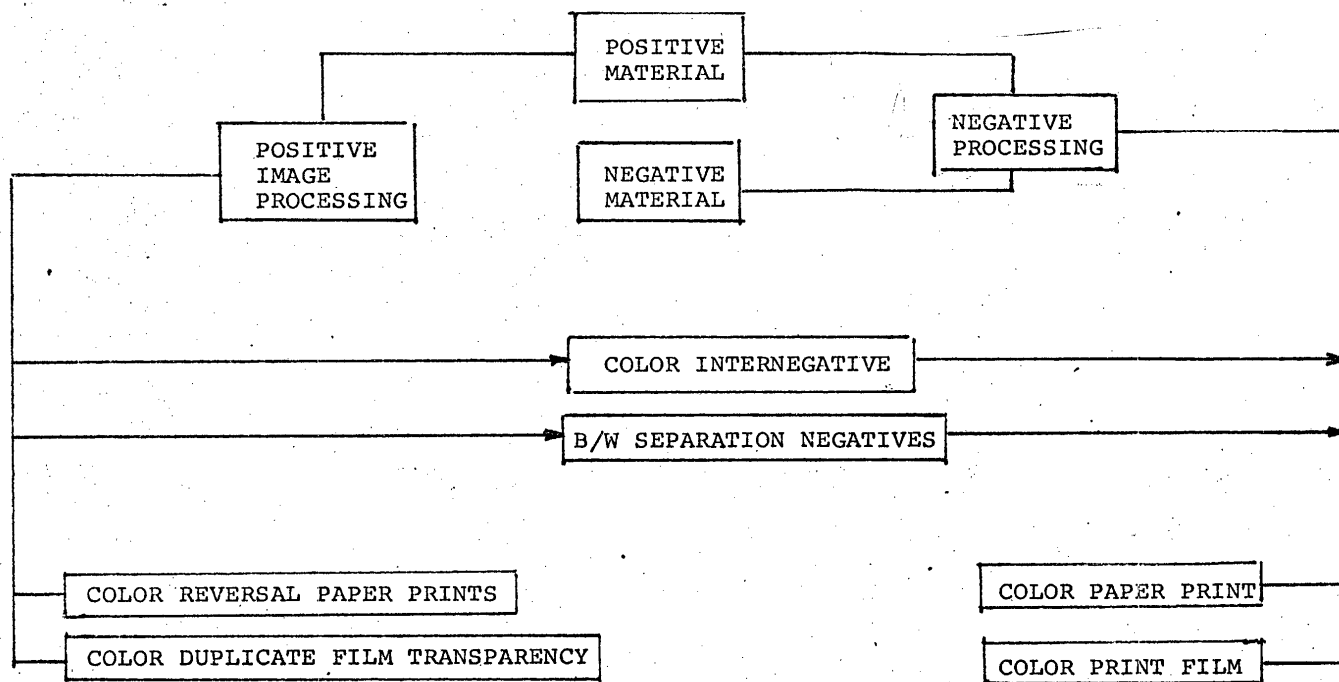

Figure 1.
5. The organization of material as shown in Figure 1.